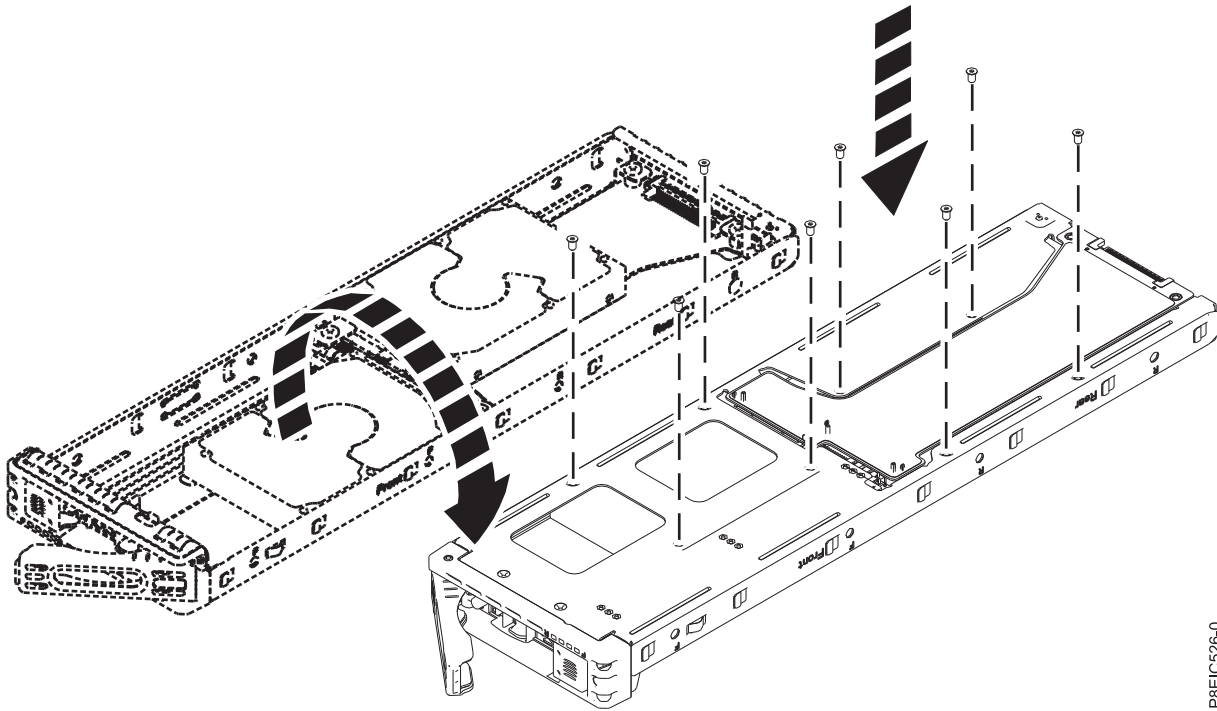

Figure 17. Screw locations for the 2.5 inch drive
- c. Fasten the drive to the bottom of the tray by using four screws, as shown in Figure 17.